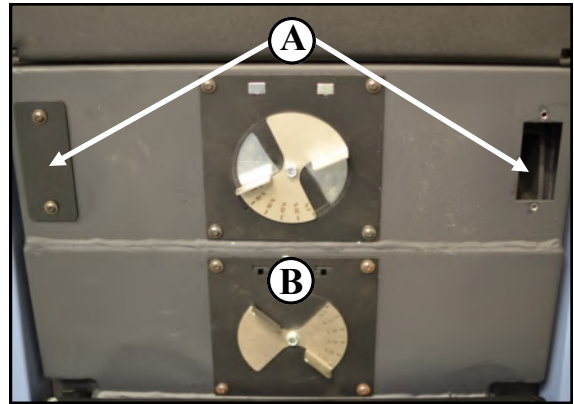

Fig. 4.12
1. Remove Primary Air cover plates (A) (Fig. 4.12). (The right plate has already been removed).
1. Remove bottom square plate (B) (Fig. 4.12).